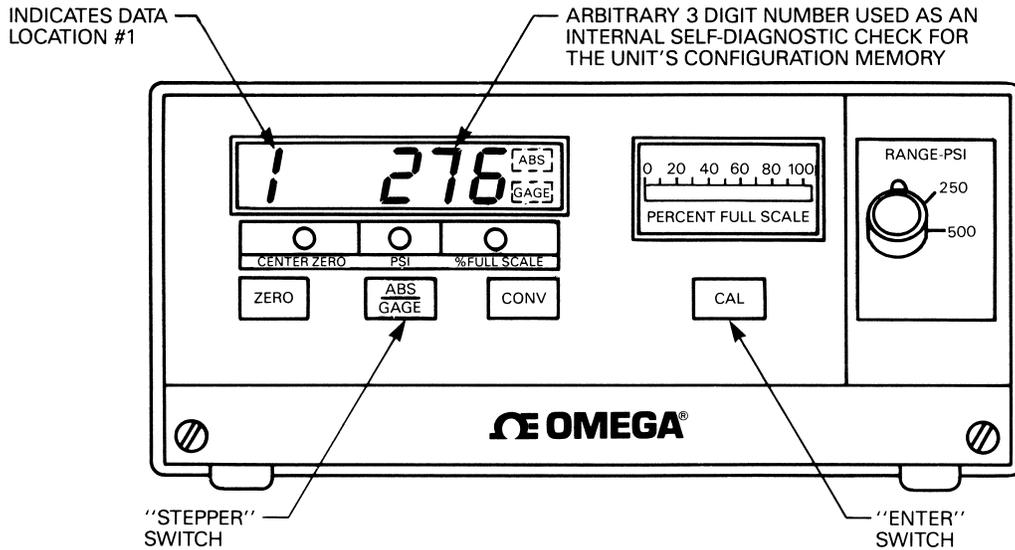

Figure 5-2. Front Panel Format When in Calibrate Mode
Figure 5-2 illustrates the location of the “stepper” and “enter” key as well as showing the display format obtained as soon as the unit has been placed in the calibrate mode.
1. Pressing the “stepper” switch again will bring the indicator back to its initial display condition as shown in Figure 5-2.